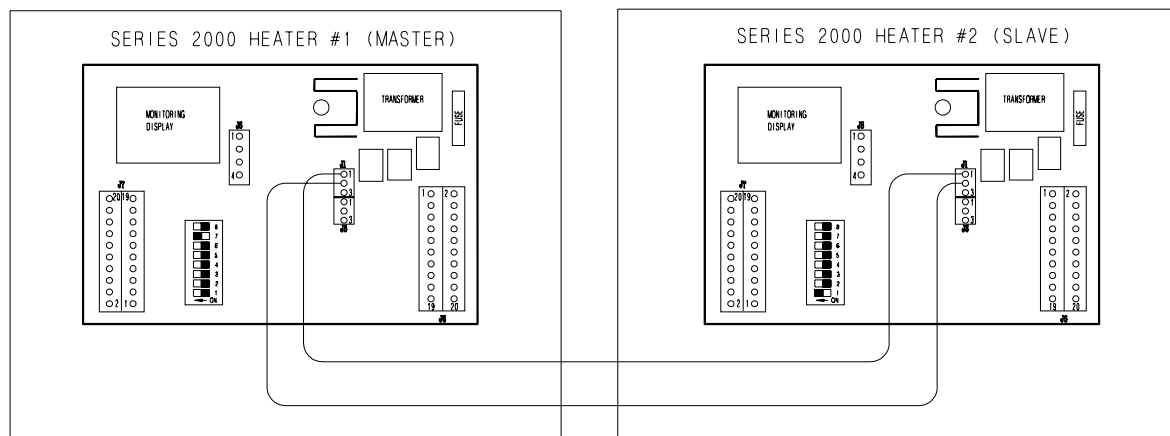

Figure 3: Secondary heater wiring diagram.
3. Connect wires as shown in Figure 3.